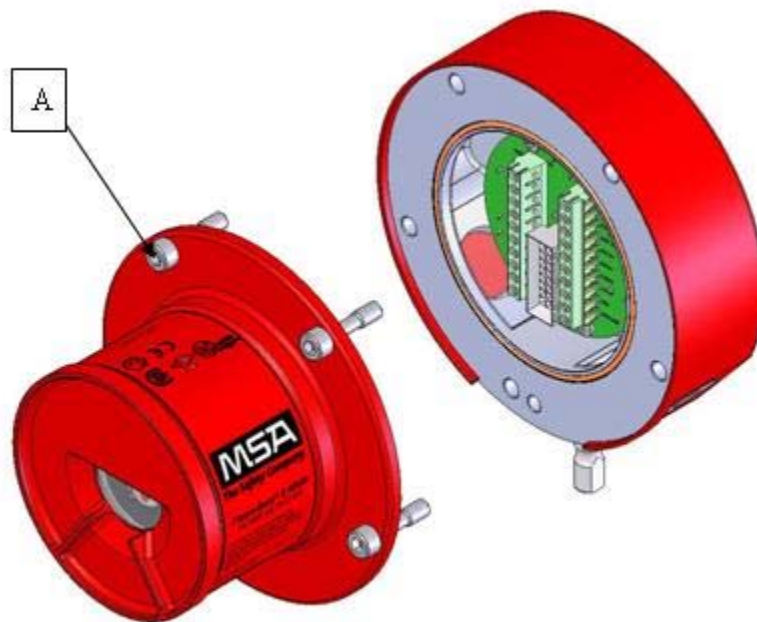
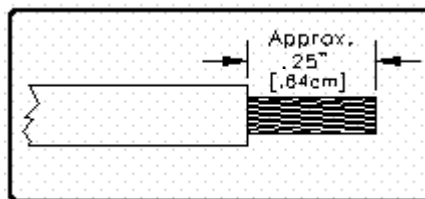

Figure 15: FlameGard 5 MSIR Housing
Figure 18: Wire-Strip Lengths
The following procedure should be used in conjunction with Figure 15:
All wire connections are made through the 3/4 inch (1.9 cm) NPT openings in the Junction Module (C, Figure 15) to the Terminal Block. The Terminal Block is located on the Junction Module Assembly (F) and accepts 14 AWG (2.08 mm²) to 22 AWG (0.33 mm²) stranded or solid-core wire. Each wire should be stripped as shown in Figure 18.